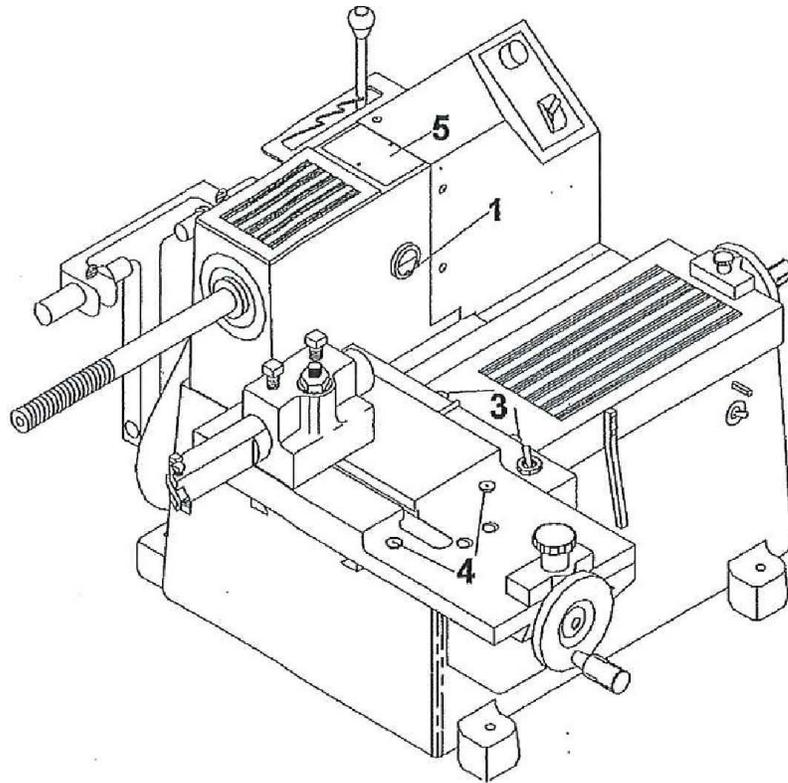

Fig 1- Lubrication points
6. Check oil level in spindle housing window (1 , figure 1) before starting the lathe. Oil level is correct when window indicator shows half full in window. To fill, remove top plate (4, figure 1). Use S A E 90 gear oil.
7. Lubricate tool carriage ways and ALL lube points (2 & 3, figure 1) with a good grade SAE 10 oil. NOTE: Lathe should be cleaned and oiled daily when in use.